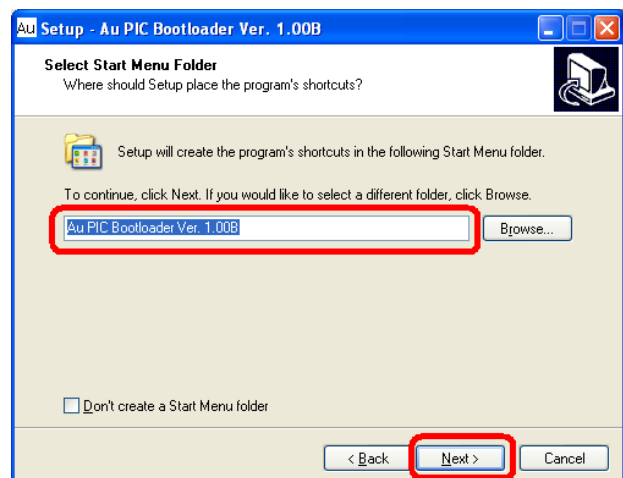

Figure C-5
5. "Select Start Menu Folder" window show up, use default setting "AU PIC Bootloader", then click "next" (Figure C-5).